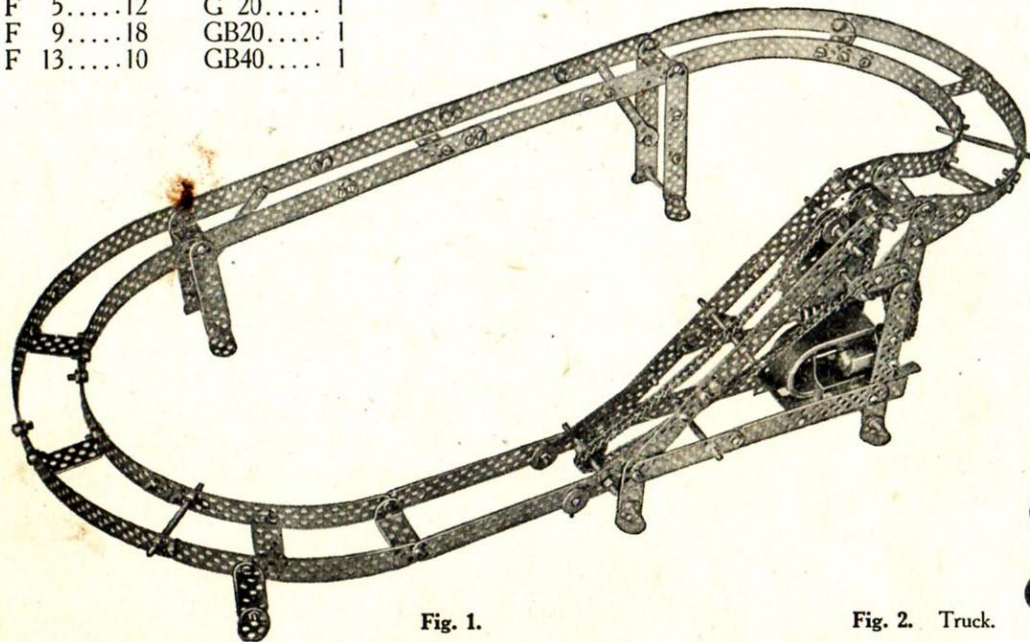

Fig. 1.
F.17's, with three holes overlapped on the inside and with one hole overlapped on the outside. An F 13 is bolted to the outside rail with three holes overlapped. One S55 and two U2's are used to space each curve. The straight rail, which slopes down from the upper to the lower curve, consists of two strips, each made of three F 13's overlapped two holes with an F 9 at the end overlapped three holes. These strips are joined up by three U2's and bolted to the curves. The supports are built as shown in Fig. 1. The left ones at the back are F 9's and the right ones are F 9's overlapped five holes. The straight rails in the front are each made of an F 17, F 9 and F 13, and the two slanting ones, each of an F 17 and F 9. Two spanners form a slope between the horizontal rails and the steep slanting rails.